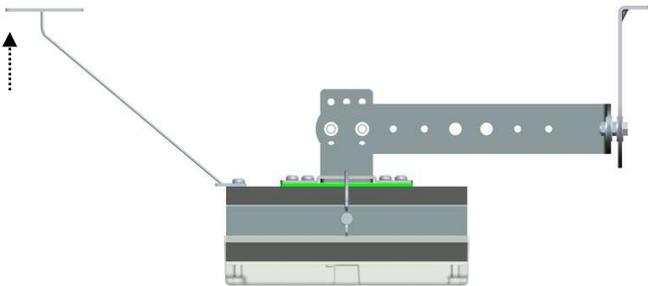

FIG.6
3. Secure the metal cord (already with one end attached to the LED head) to the fixture. See FIG.6.
4. Secure the metal cord(s) (already with one end attached the LED head, see FIG. 6) to the fixture, for secure purpose.